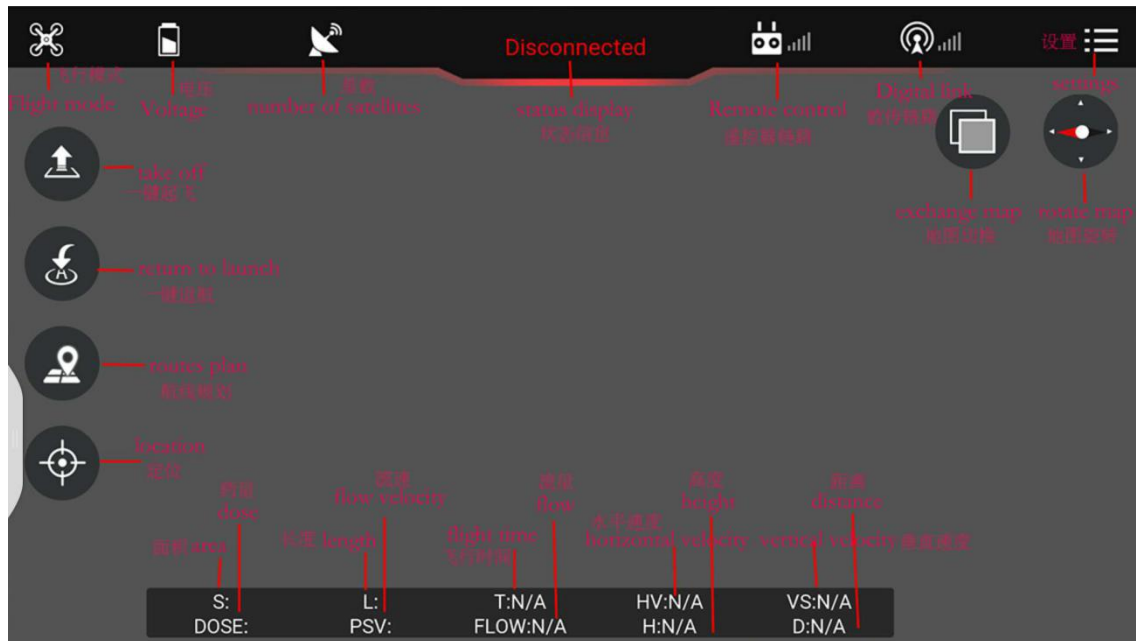

Figure 4-2
5. Enter into the main page ,see figure 4-2.